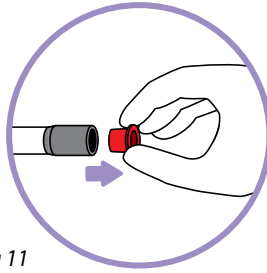
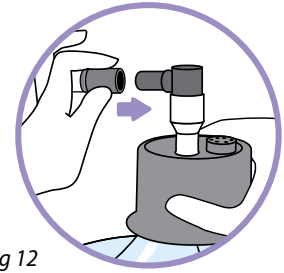

Fig 11
Fig 12
- Remove the red protective cap from the bottle tube (Fig 11). Install it into the bottle adaptor (Fig 12).